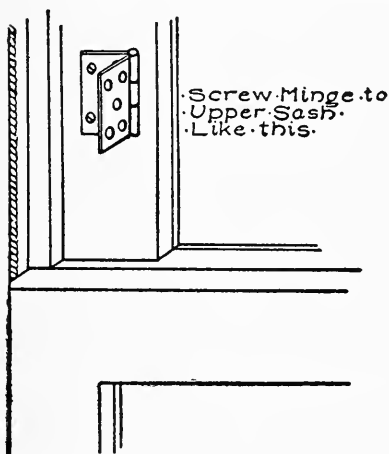

FIG. 44. — The Hinge Window Lock.
**The Hinge-lock**, in Fig. 44, is one of the most serviceable window-locks that can be had, for it can be so placed as to allow the window to be opened a few inches for ventilation, and at the same time prevent further opening.